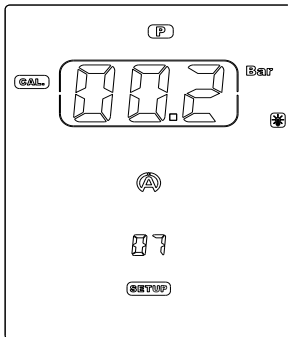

Figure 21
- It is useful to calibrate the sensor when the FACE indicates a value of pressure whereas no pressure has been entered in the Tyrecontrol (example : figure 21). The mouthpiece of the Tyrecontrol must be free.